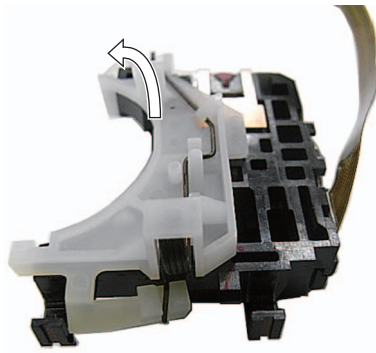

Fig. 2
3. Remove the PU Rack, by applying force in the direction of the arrow in Fig. 2.